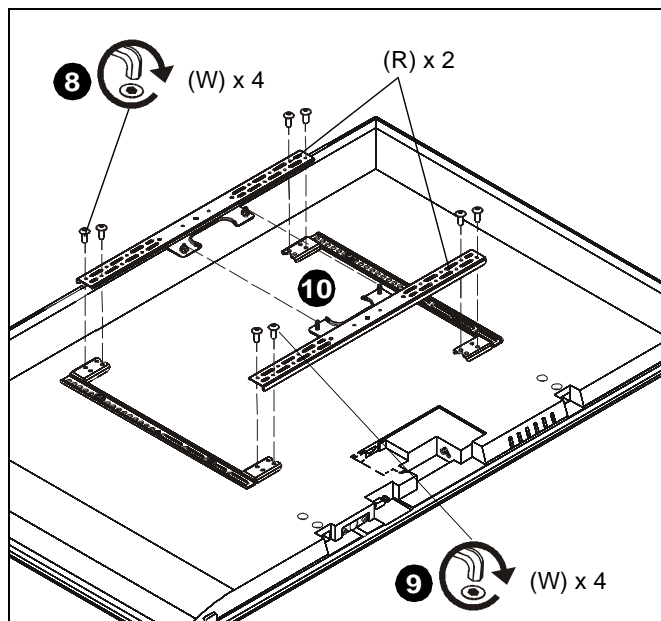

Figure 22
8. Connect top interface support (R) to uprights (P and Q) using four #10-24 x 1/2" button head cap screws (W). (See Figure 22)
9. Connect bottom interface support (R) to uprights (P and Q) using four #10-24 x 1/2" button head cap screws (W). (See Figure 22)
10. When connecting bottom interface support to uprights, make sure that it is aligned vertically with top interface support. (See Figure 22)